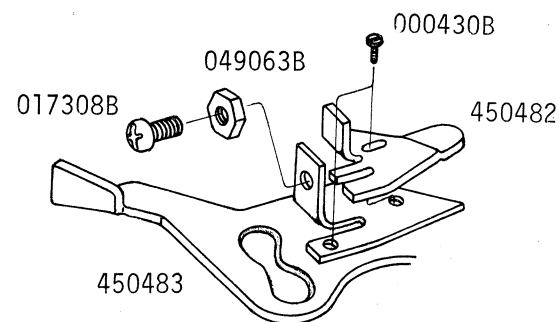

Fig. 12
- (a) Loosen two set-screws (000430B) of one frame lever B (450483) on the lamp stand (450119). (Fig. 12)
(b) Loosen the nut (049063B) on the front side of one frame lever B and turn the screw (017308B), and adjust the location of one frame lever and the clearance in case of one frame projection. (Fig. 12)